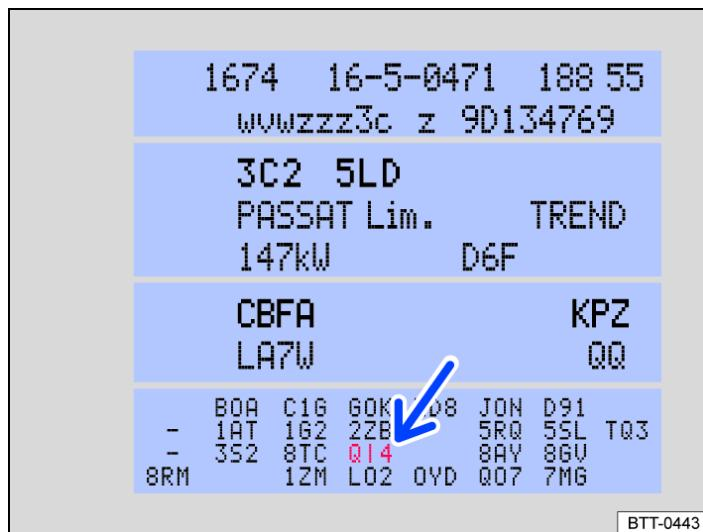

Fig. 1 Vehicle data sticker with PR number for the relevant service (illustration).
- From the PR number of the vehicle data sticker → *Fig. 1* (arrow).